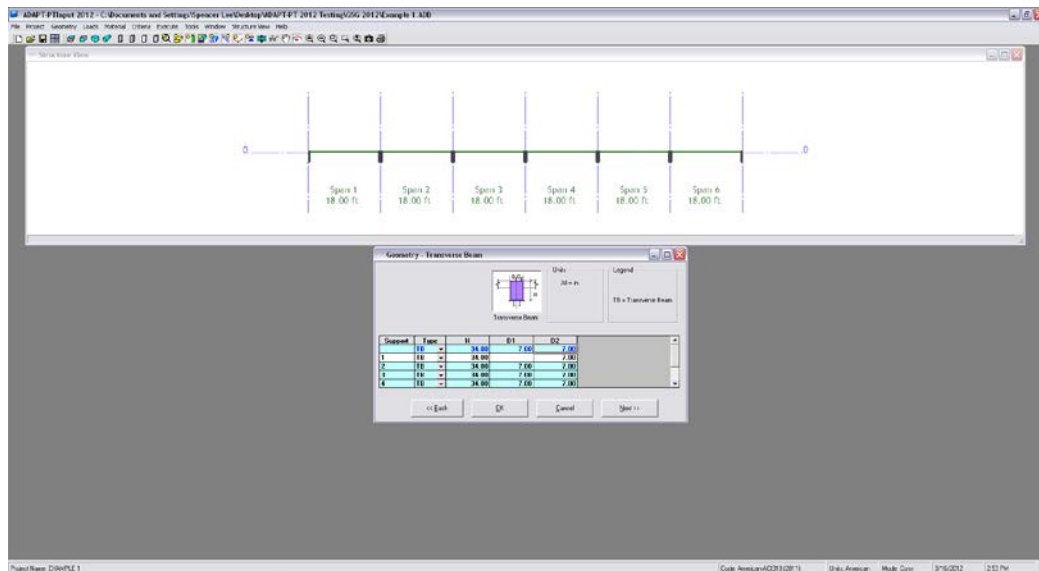

FIGURE 2.1-5
2.1.2.2 Enter Geometry Of Transverse Beam (Fig. 2.1-5)